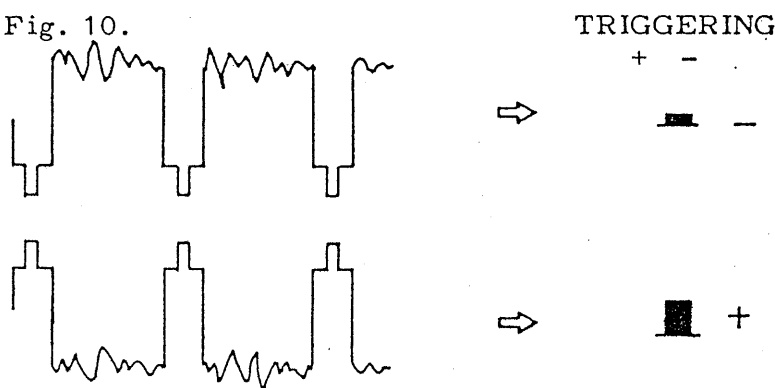

Fig. 10
- (2) AUTO mode : The circuit is stably triggered with an input signal of which repetition frequency is more than 50Hz. The sweep circuit free runs automatically even when no trigger input signal is being applied. A bright trace is displayed even at fast sweep ranges and the zero level can be readily checked. For general purposes, use of the AUTO mode is recommended.
- (3) TV mode : This mode is used for observation of television video signal. The only synchronizing signal in the input signal is picked up by synchronizing separator circuit. As the synchronizing signal is used as trigger input signal, the circuit is stably triggered. In $0.5\mu\text{s} \sim 50\mu\text{s}/\text{DIV}$ ranges, the triggering circuit is synchronized by the horizontal synchronizing signal (TV.H) and in $0.1\text{ms}/\text{DIV}$ or less ranges, it is synchronized by the vertical synchronizing signal (TV.V). Select the TRIGGERING +/- position corresponding to the polarity of television video signal measured as Fig. 10.